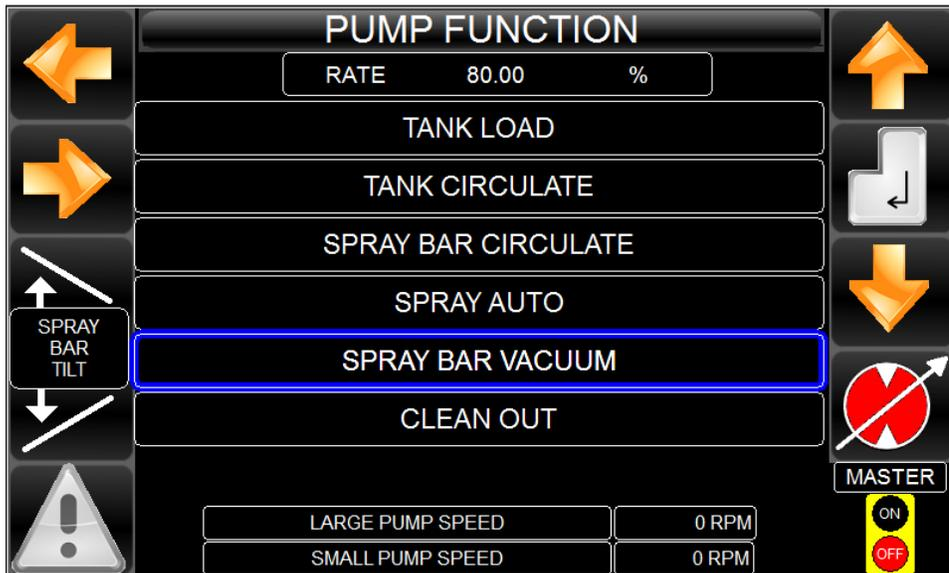

Figure 57: Spray bar vacuum
6. If both emulsion pump shafts can be turned, run **Spray Bar Vacuum** (Figure 57) at maximum pump speed. This pump function will suck the solvent from the strainer housing into the emulsion tank.